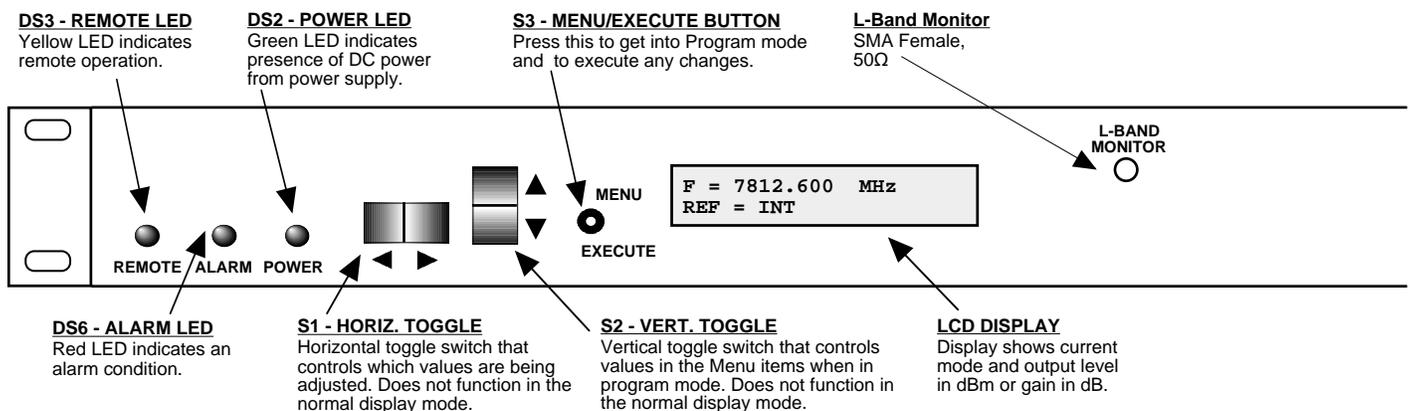

FIGURE 2.2 3116-77#-1200 Front Panel Controls and Indicators
Figure 2.2 shows the front panel controls and indicators.
4. Be sure DS2 (green, DC Power) is on and DS6 (red, Alarm) is off (Figure 2.2).
Alarm indications appear on the LEDs (see Figure 2.2).